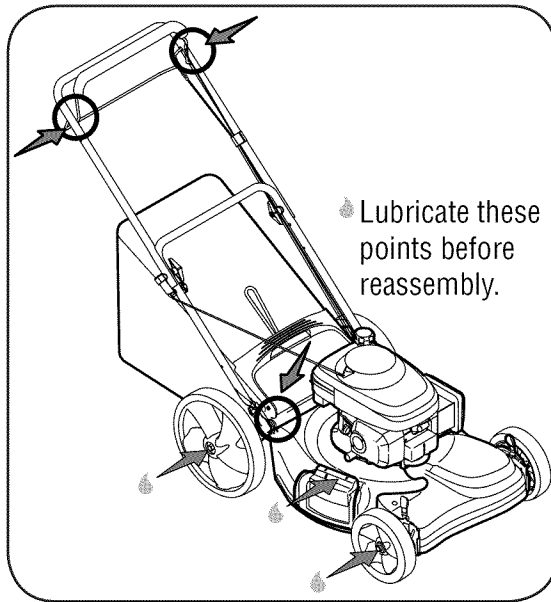

Figure 3
1. Lubricate pivot points on the blade control at least once a season with light oil. The blade control must operate freely in both directions. See Figure 3.
2. Lubricate the wheels at least once a season with light oil (or motor oil). If wheels are removed for any reason, lubricate surface of the pivot arm and inner surface of the wheel with light oil. See Figure 3.
3. Lubricate the torsion spring and pivot point on each end of the rear discharge door and the side mulching plug periodically with light oil to prevent rust. See Figure 3.